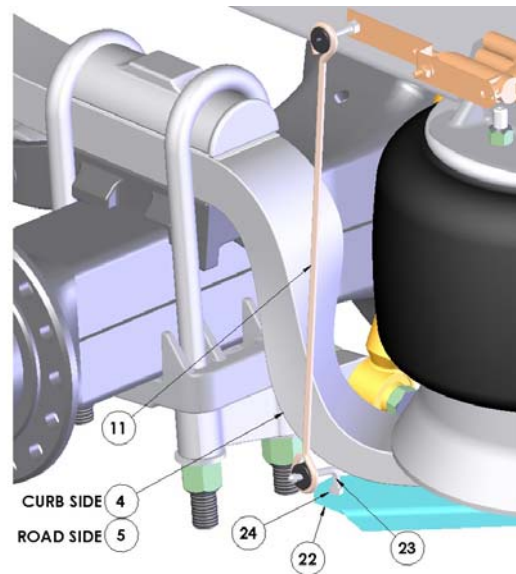

Figure 4
6. Remove height control valve linkage (Item 11). (Figure 4)
7. Remove ride height rod bracket (Item 22) from spring beam (Items 4 or 5). Remove rod attachment pin (Item 23) and nuts (Item 24) from bracket and retain along with bracket attachment bolts and nuts. Discard mounting bracket (Item 22). (Figure 4)